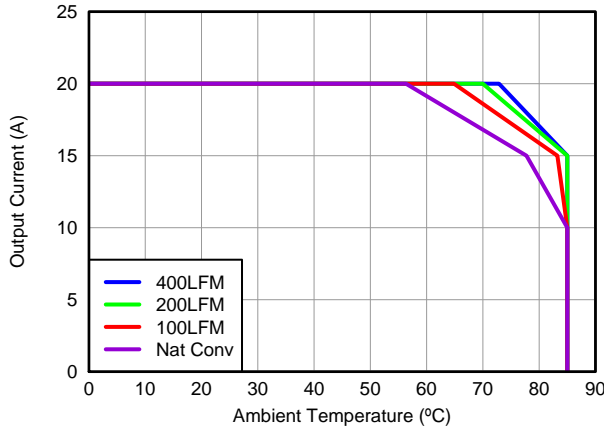
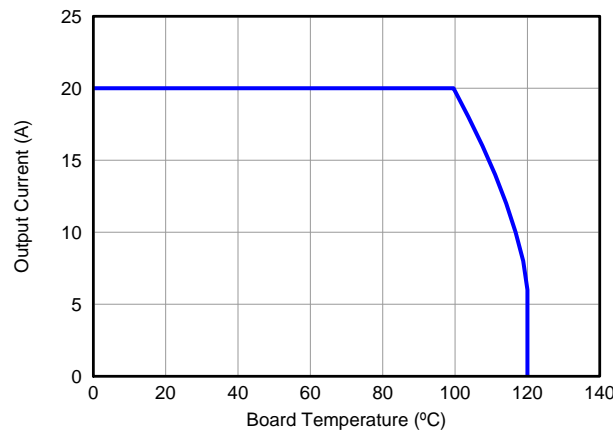

Figure 3. Safe Operating Area – PCB Vertical Mount(1)
Figure 5. Typical Safe Operating Area(1)
The SOA curves in the CSD87330Q3D data sheet provides guidance on the temperature boundaries within an operating system by incorporating the thermal resistance and system power loss. Figure 3 to Figure 5 outline the temperature and airflow conditions required for a given load current. The area under the curve dictates the safe operating area. All the curves are based on measurements made on a PCB design with dimensions of 4" (W) x 3.5" (L) x 0.062" (T) and 6 copper layers of 1 oz. copper thickness.